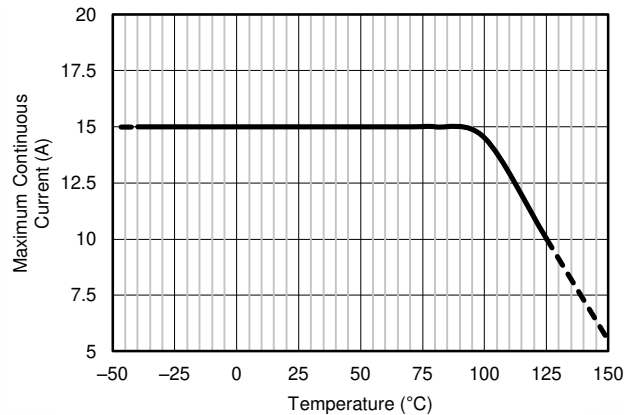

图 7-1. Maximum Current vs Temperature
(3) The supply voltage range maximum is 36 V, but the reference voltage cannot be higher than 18 V.
(4) See 图 7-1 and the *Layout* section for additional information on the current derating and layout recommendations to improve the current handling capability of the device at higher temperatures.
(5) See the 节 7.3.1 section for additional information regarding the integrated current-sensing resistor.
(6) System gain error includes amplifier gain error and the integrated sense resistor tolerance. System gain error does not include the stress related characteristics of the integrated sense resistor. These characteristics are described in the *Shunt Resistor* section of the *Electrical Characteristics* table.
(7) The internal shunt resistor is intended to be used with the internal amplifier and is not intended to be used as a stand-alone resistor. See the *Integrated Shunt Resistor* section for more information.
External factors (such as ambient temperature, external air flow, and PCB layout) can contribute to how effectively the heat developed as a result of the current flowing through the total package resistance can be removed from within the device. Under the conditions of no air flow, a maximum ambient temperature of 85°C, and 1-oz. copper input power planes, the INA250 can accommodate continuous current levels up to 15 A. As shown in 图 7-1, the current handling capability is derated at temperatures above the 85°C level with safe operation up to 10 A at a 125°C ambient temperature. With air flow and larger 2-oz. copper input power planes, the INA250 can safely accommodate continuous current levels up to 15 A over the entire –40°C to 125°C temperature range.